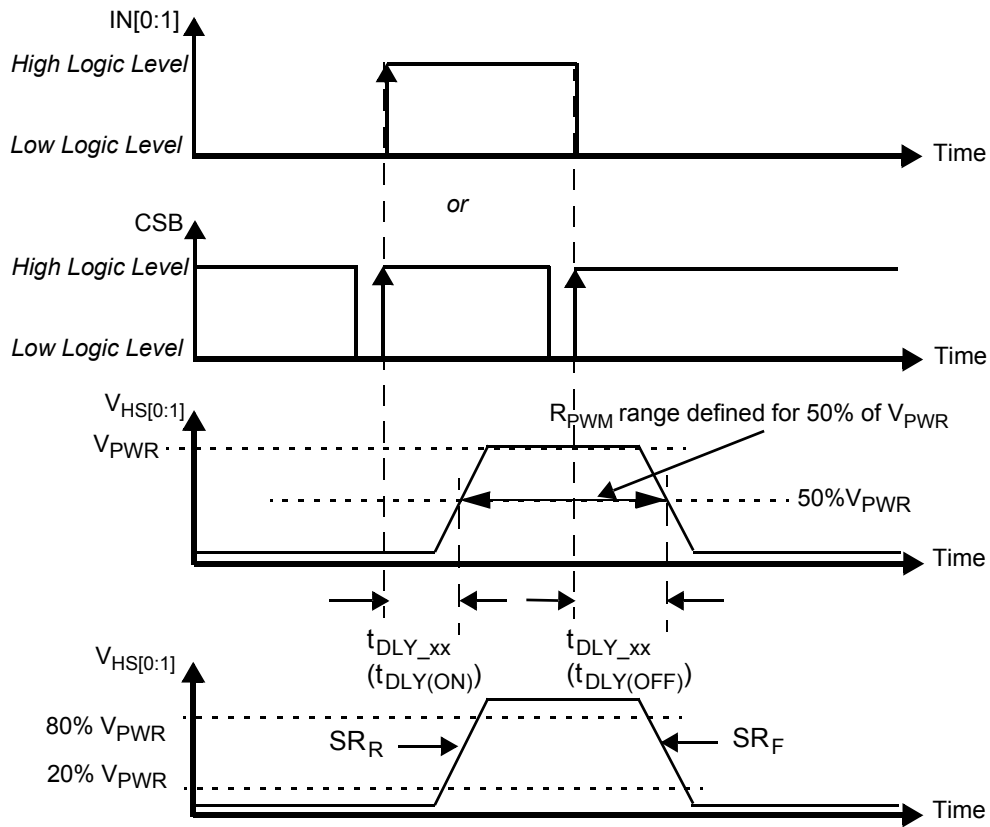

Figure 4. Output Voltage Slew Rate and Delay
30. Rising and Falling edge slew rates specified for a 20 to 80% voltage variation on a 10 Ω resistive load (see Figure 4).
32. Time required to switch off the channel after detection of overtemperature (OT), overcurrent (OC), SC or UV error (time measured between start of the negative edge on the FSB pin and the falling edge on the output voltage until $V(\text{HS}[0:1]) = 50\%$ of V_{PWR}